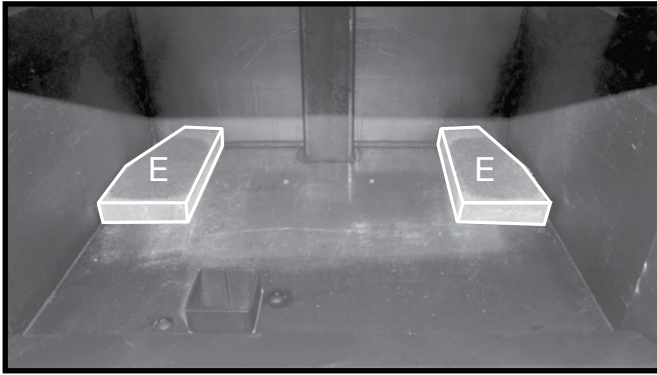
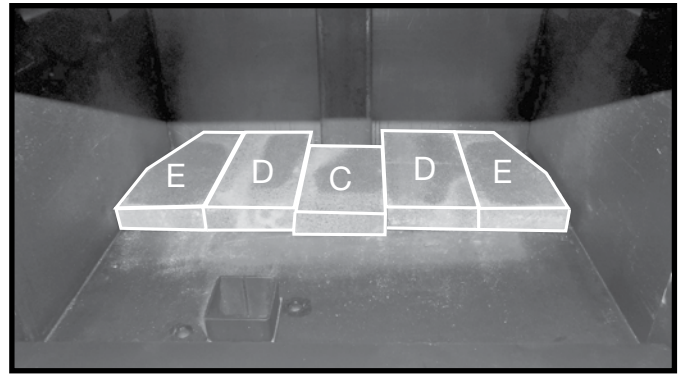

Figure 20: Corner floor bricks.
Figure 21: Back row of bricks.
1. Begin by placing the 2 "E" bricks into the rear corners of the firebox floor (Figure 20). These trimmed bricks will fit around the two bolts coming up in the back corners. Continue by placing 2 "D" bricks beside the "E" bricks and the short "C" brick in the center up against the baffle tube (Figure 21). Eliminate any gaps between the bricks by shifting the bricks in toward the center of the firebox.